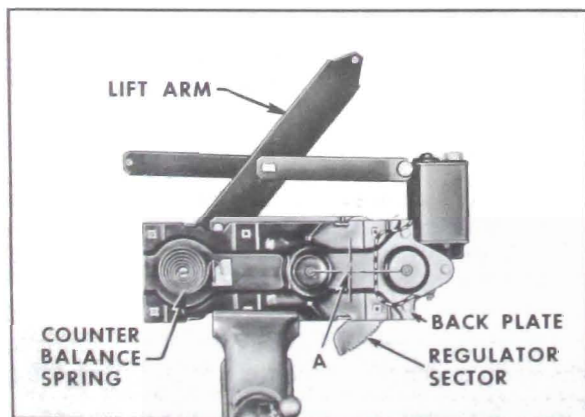

Figure 2-37—Rear Door Window Regulator Assembly
1. Remove electric window regulator assembly from door and/or rear quarter and clamp securely in vise. (See Figure 2-37)
2. Drill a 1/4" hole through sector and back plate within area indicated by "A". (See Figure 2-37)
4. Remove motor attaching bolts and remove motor assembly from regulator. (See Figure 2-37)